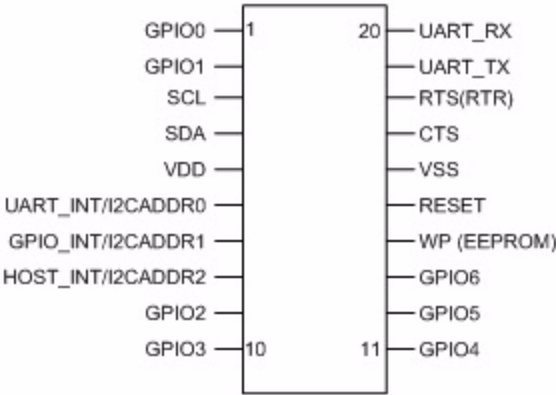

Figure 3. ZDU0110RHX Pin Configuration
- Figure 3. ZDU0110RHX Pin Configuration 6